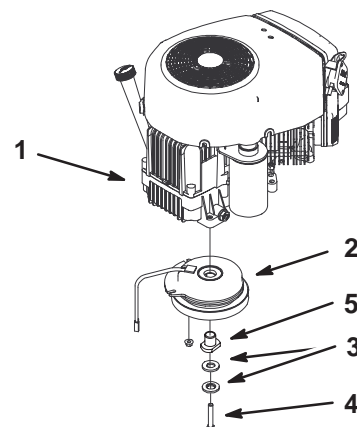

Figure 3
4. Remove the existing clutch from the machine (Fig. 3). Discard the bolt that was installed in the clutch.
5. Remove the existing drive spacer from the clutch (Fig. 3).